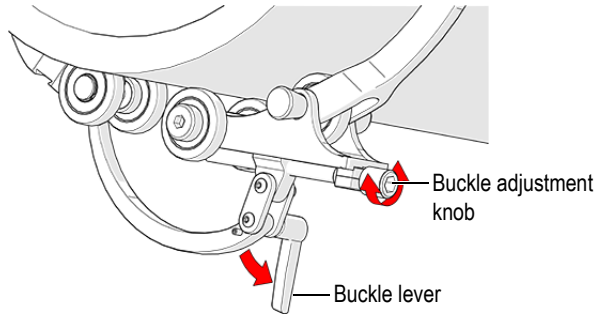

Figure 2-6 Buckle pressure adjustment
11. If necessary, loosen the buckle adjustment knob and the buckle lever to allow the arm to reach the catch link (see Figure 2-6 on page 37).